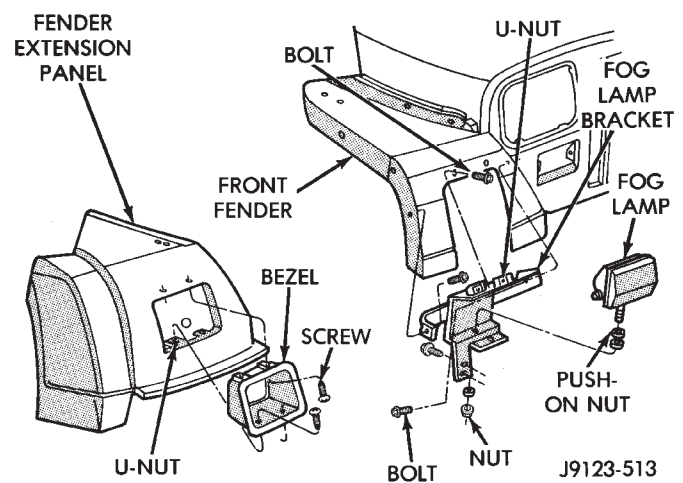

Fig. 51 Fog Lamp Removal/Installation
(1) Disconnect the wire harness connector.
(2) Remove the fog lamp retaining nut and washer from the fog lamp and bracket (Fig. 51).
(3) Remove the bezel retaining screws (Fig. 51).
(4) Remove the fog lamp and the bezel from the fender extension panel (Fig. 51).
(5) With the fender extension panel removed, remove the fog lamp bracket retaining bolts from the front fender (Fig. 51).
(1) If removed, install the fog lamp bracket and the retaining bolts on the front fender (Fig. 51). Tighten the bolts to 10 N·m (7 ft-lbs) torque.
(2) If removed, install the fender extension panel. If necessary, refer to the installation procedure.
(3) Position the bezel and the fog lamp in the
fender extension panel (Fig. 51).
(4) Install the bezel retaining screws (Fig. 51). Tighten the screws to 1.5 N·m (13 in-lbs) torque.
(5) Install the fog lamp washer and retaining nut on the fog lamp and bracket (Fig. 51). Tighten the nut to 10 N·m (7 ft-lbs) torque.
(6) Connect the fog lamp wire harness connector.